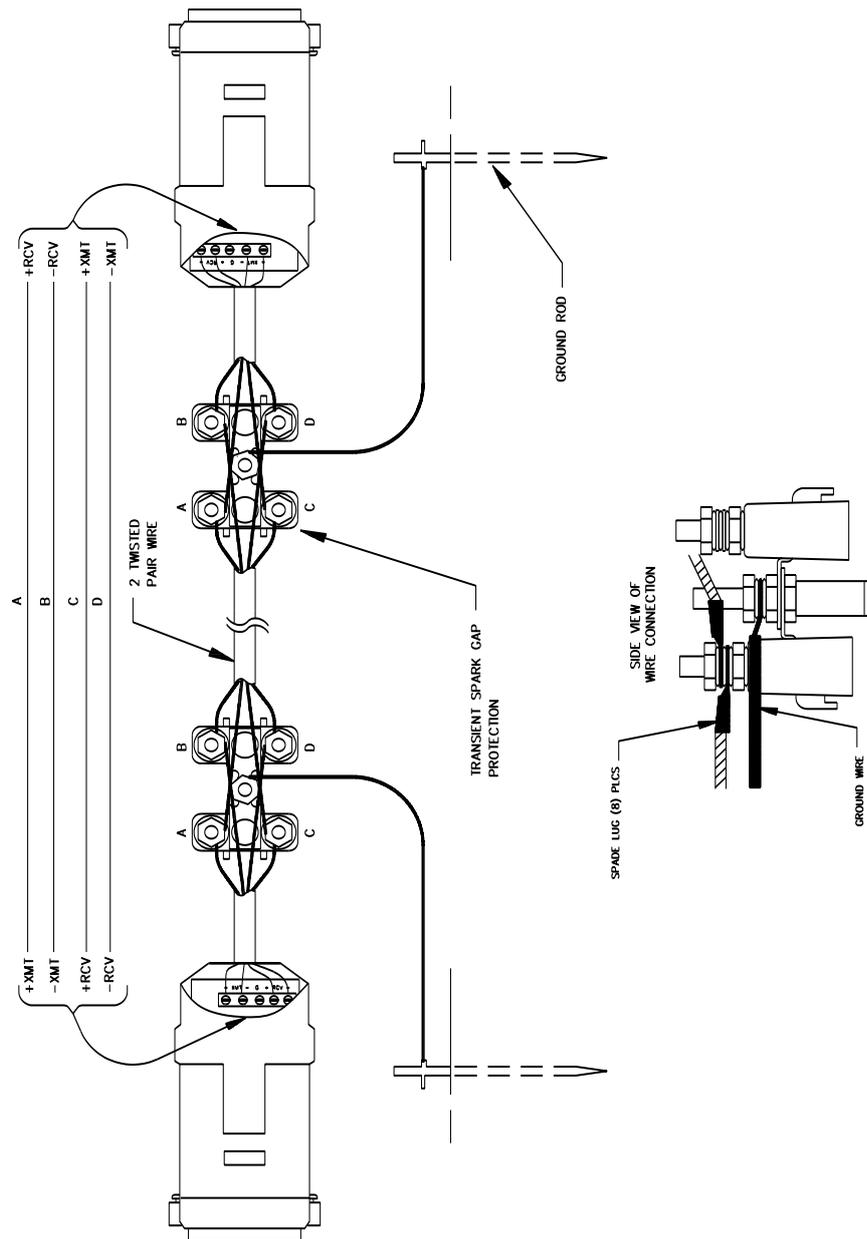

Figure 5-2. Installation of Spark Gap Protection
Figure 5-2 shows a typical set-up of the RAD modems. Installation is as follows:
3. Wiring connections are made as shown in Figure 5-2. Note wires labelled A and B are one twisted pair of the cable. Wires labelled C and D are the other twisted pair.
4. Transients induced on the communication line may damage any electronics connected at either end of the line. To decrease the chances for damage, spark gaps should be installed as shown in Figure 5-2. The transient protection shown may be purchased from Campbell Scientific (pn #5563 shown in Figure 5-2, pn #6536 includes a plastic case, pn #6361 includes hardware for mounting to ground lug of Campbell Scientific enclosures models ENC10/12, ENC12/14, or ENC16/18). Spark gap wiring is straight through such that pin to pin continuity exists between the two modems. If the modems are installed entirely within a building, the transient spark gap protection is probably not needed.